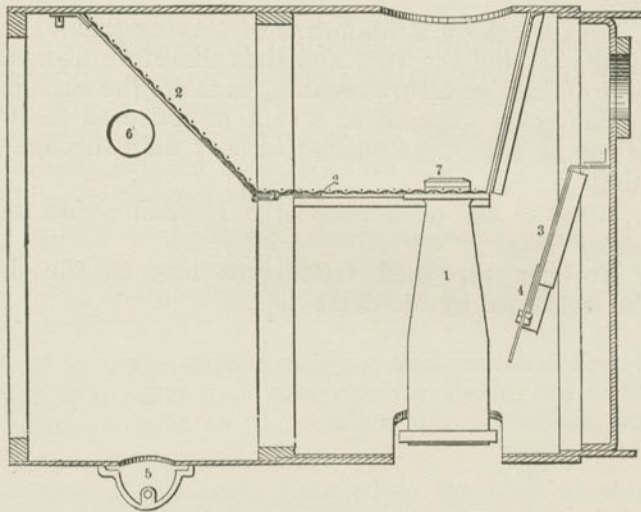

Fig. 80. Smoke-box and Fittings (Lengthwise View).
A. Cast-iron, having in its center a large outward-opening door which permits inspection and repair of parts inside. (Fig. 80.)